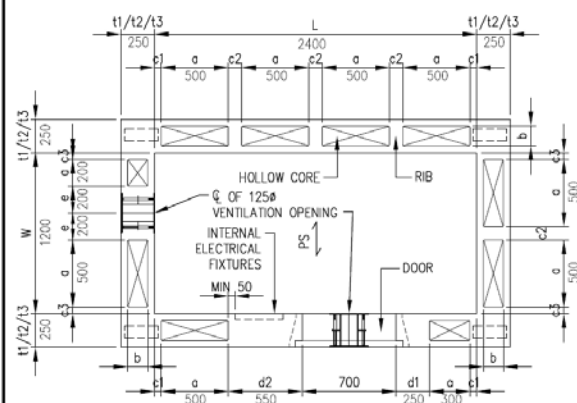

FIGURE 1: PRECAST HS WITH HS DOOR ON LONGER WALL AND ONE OF VENTILATION SLEEVE ABOVE THE DOOR (TYPE 1)
Figures 1 to 30 : Details of Precast Hollow Core Household Shelters	B-8 to B-25
2. Precast hollow core household shelters (hereafter known as precast household shelters) must be designed to meet the area and volume requirements. The internal length and width of the household shelter (HS) walls shall be modular in size with an increment of 50mm. Precast household shelters including the dimensions and spacing of modular hollow cores (See Tables A & B, Annex B), location of shear key on wall above HS door, ventilation sleeves, blast door and electrical fixtures are shown in Figures 1 to 10 of Annex B :
| a) | Figure 1 | : | Precast HS with HS door on longer wall and one of ventilation sleeve above the door (Type 1). |